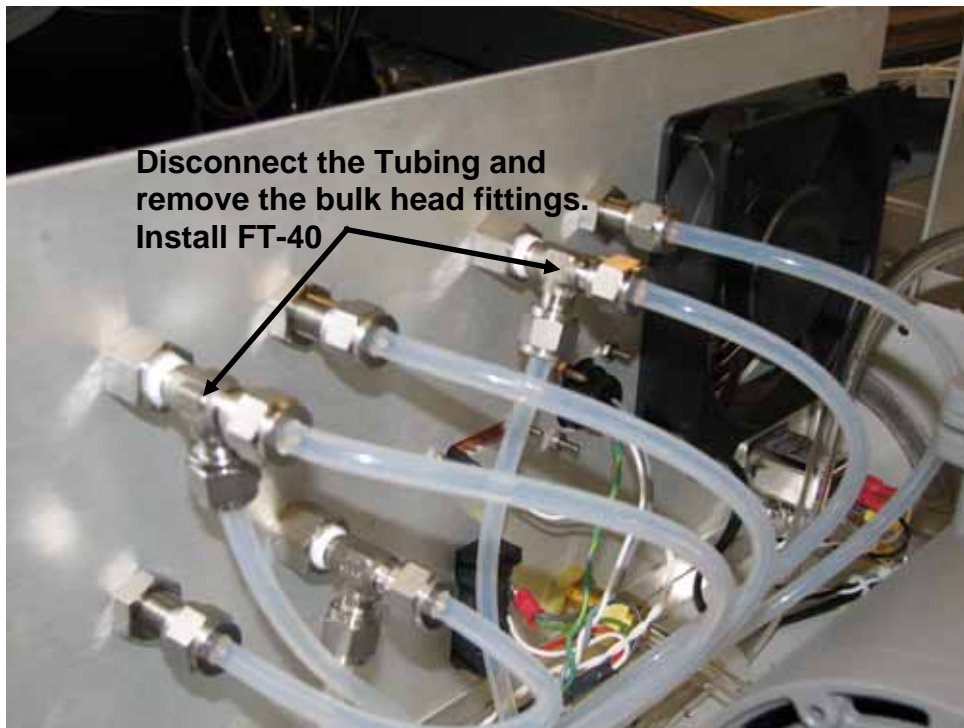

Figure 2
4. Locate the two bulk head fittings on the rear panel that have tee fittings attached to them. Disconnect the four 1/4" tubes going to these two tee fittings (See figure 2).